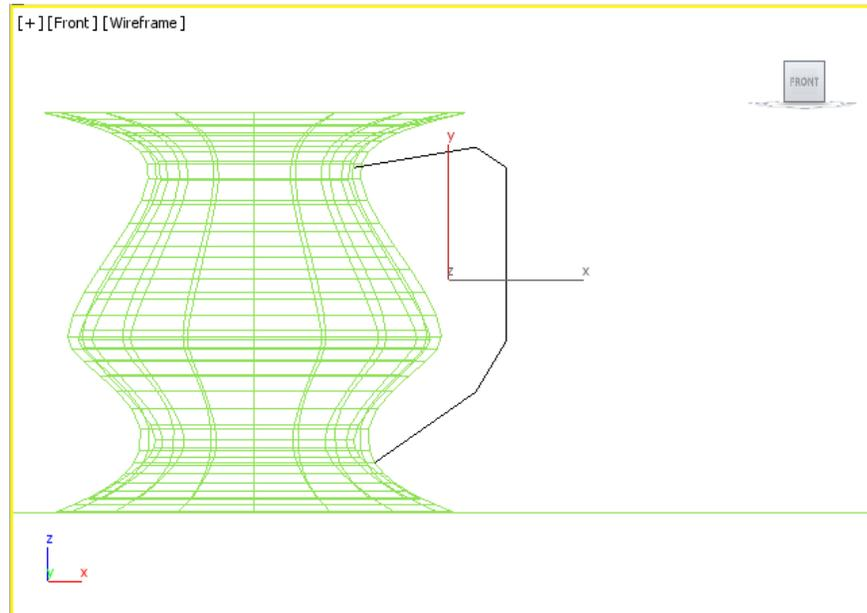

Figure 5-17 The curve for the handle of the Jug
- Similarly, click at other points to form a curve, refer to Figure 5-17. Right-click to exit the **Line** tool; the shape of the handle is created, as shown in Figure 5-17.